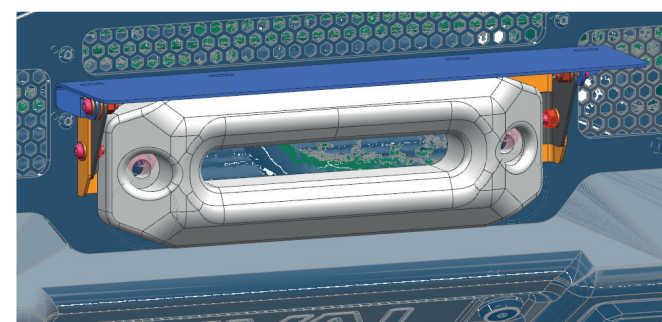

Fig. 59
57. Install license plate bracket between bumper body and fairlead, fasteners supplied with fairled (fig. 59).